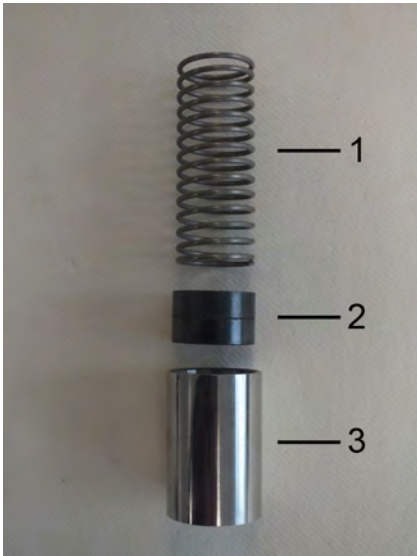

Fig. 61: Inner parts
- 8.** ➤ Insert spring (Fig. 61/1) with magnets (Fig. 61/2) into the float (Fig. 61/3) ensuring proper magnetic pole orientation (north pole toward device outlet)